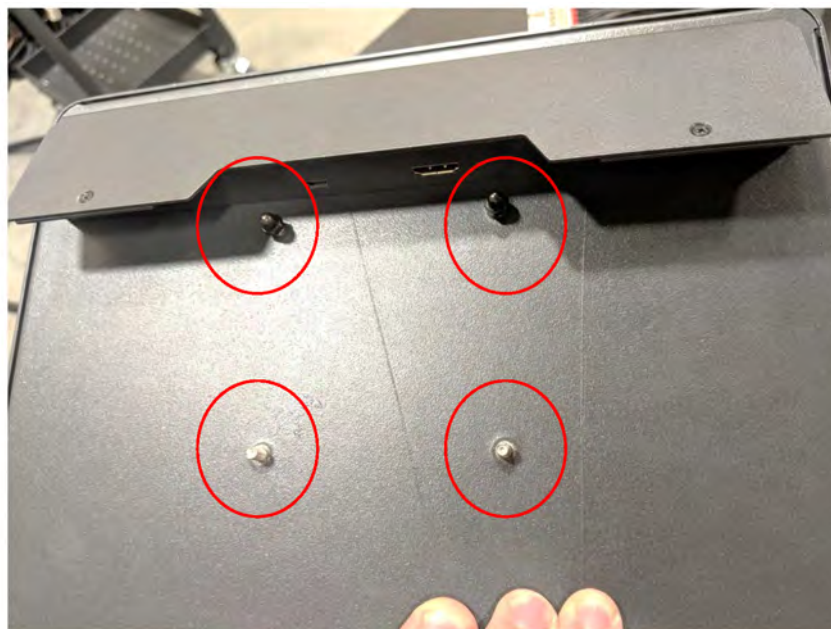

Figure 16-36 Fastener Check
- Ensure the fasteners are pre-installed on the top threaded studs and the fasteners are left off the bottom studs on the back of the touch monitor (refer to Figure 16-36).